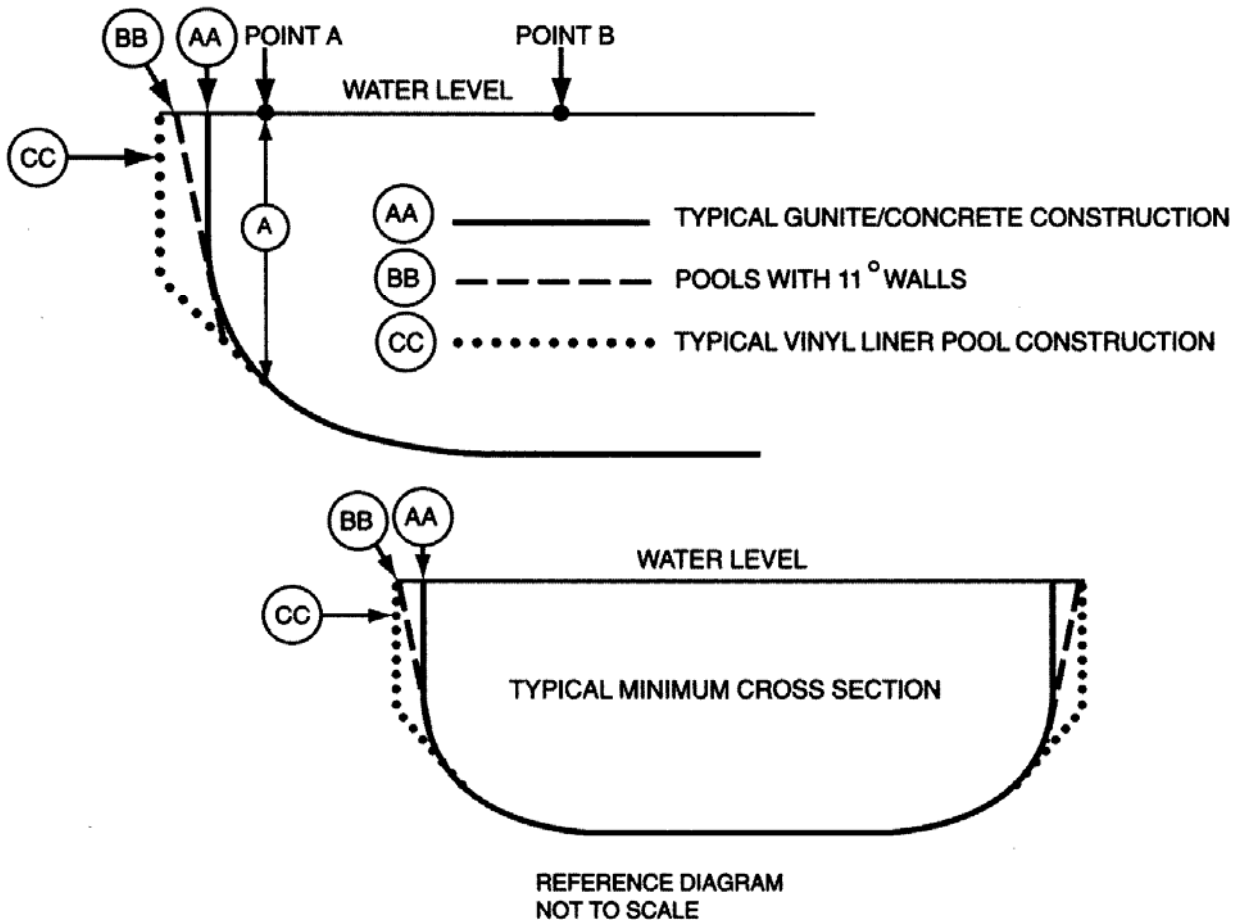

Figure 2- Typical pool design configurations
5.3.2 As shown in figure 2, at the depths of (a) and (b), the walls are permitted to join the floor.